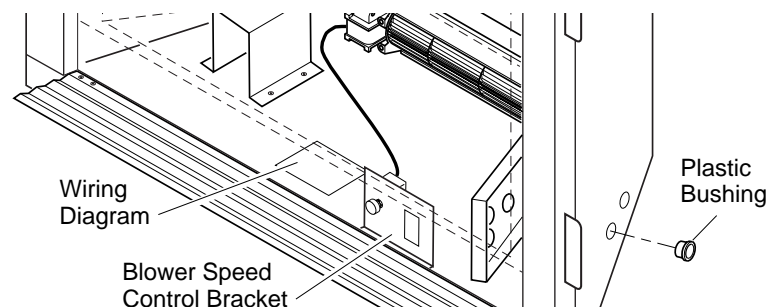

Figure 33 - Installing Plastic Bushing and Wiring Diagram Sticker
- a. **If your fireplace system is installed as a freestanding unit with an accessory mantel**, determine whether the power cord will exit the left side or the right side of the firebox. Install one plastic bushing provided into the 1 1/2" hole in the outer casing through which the power cord will exit. Install the second plastic bushing provided into the floor support bracket if exiting through the right side (see Figure 33). Route power cord through (both) plastic bushing(s) and plug the power cord into a properly grounded 3-prong wall receptacle near the firebox.
10. Peel off the backing paper and stick the supplied wiring diagram decal on the firebox bottom approximately 3" to the right of the blower speed control bracket (see Figure 33).